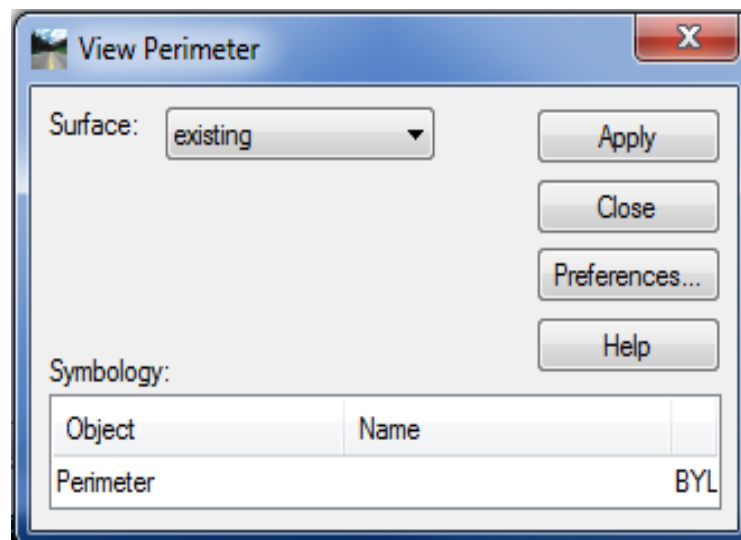

Figure 2-1 InRoads View Perimeter Dialog Box
- B. On the InRoads Main Menu Bar click on **Surface > View Surface > Perimeter**, Figure 2-1.